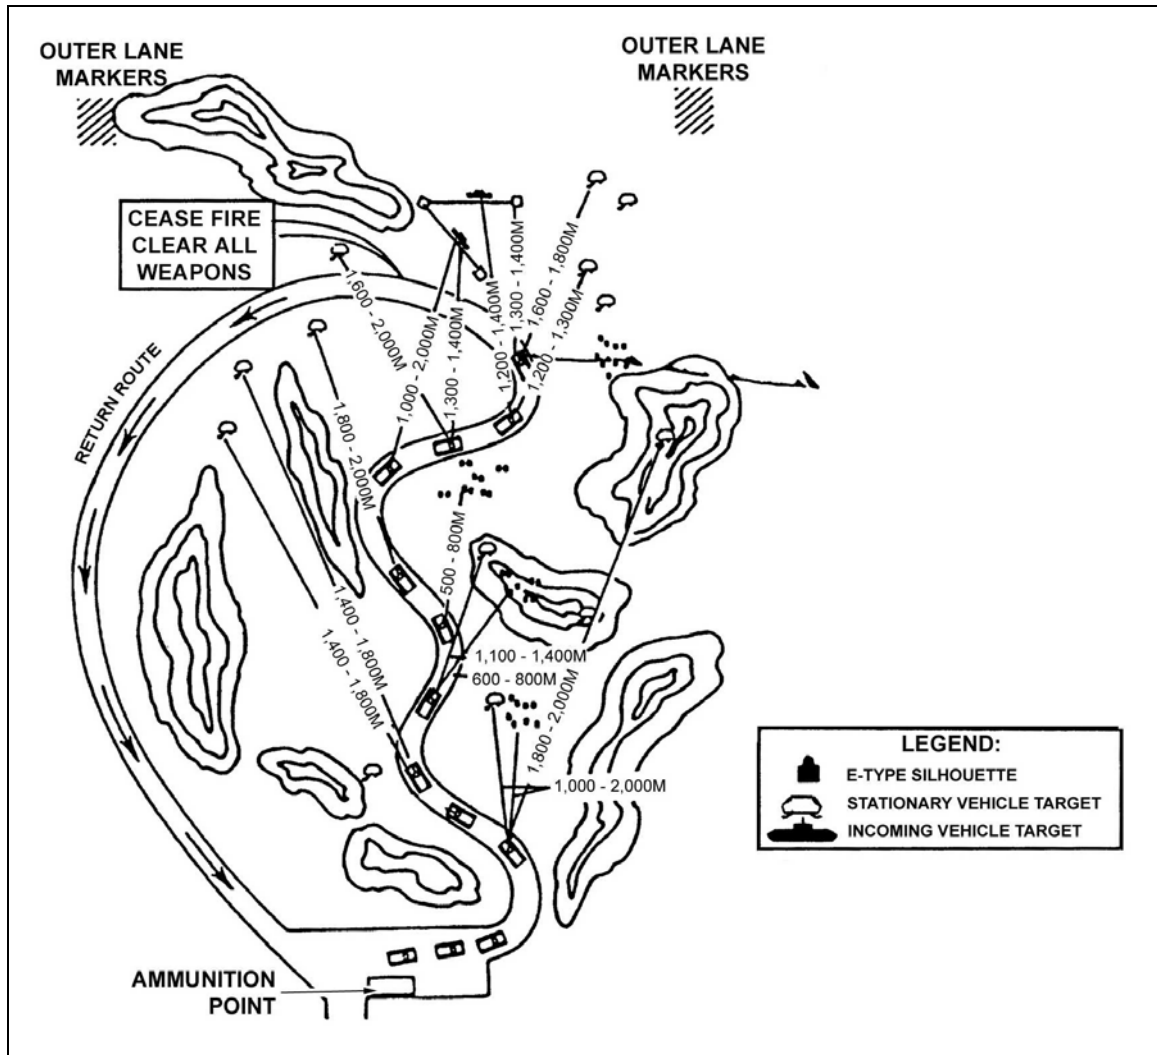

Figure 5-1. Sample layout of a Bradley moving range.
(2) Stationary Bradley ranges have moving and stationary targets, which crews engage from defensive positions or berms. OICs should coordinate with local range control for help planning these exercises.
(3) Moving Bradley ranges have a maneuver box that stationary ranges lack (Figure 5-1). The maneuver box is the maximum distance the vehicle could travel and still have the target exposed. If course roads exist, then the BC should move on those, also using available terrain to help mask the vehicle. (Range control will help the units plan these exercises.) Knowing the maneuver box allows the vehicle crew to acquire, range, and destroy targets arranged in a realistic array, as listed on appropriate gunnery tables. Maneuver boxes must be clearly defined. The firing vehicle must adhere to start and stop points. At no time will the vehicle extend or surpass the exposure and engagement times.